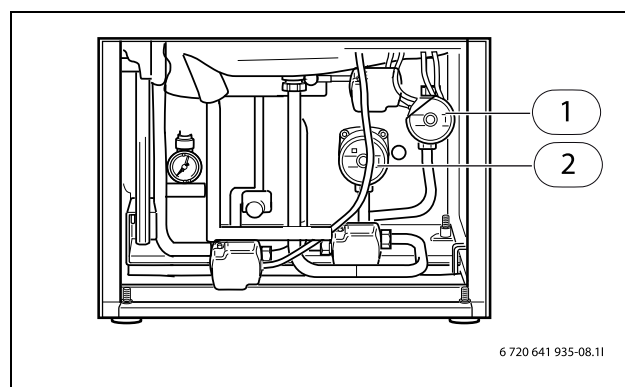

Fig. 53 Connection chamber, internal unit
- ▶ Check whether the heat pump has stopped (→ Fig. 53 on page 41).
- Check whether the primary heating circuit pump has stopped (→ Fig. 53, [1], page 41)..